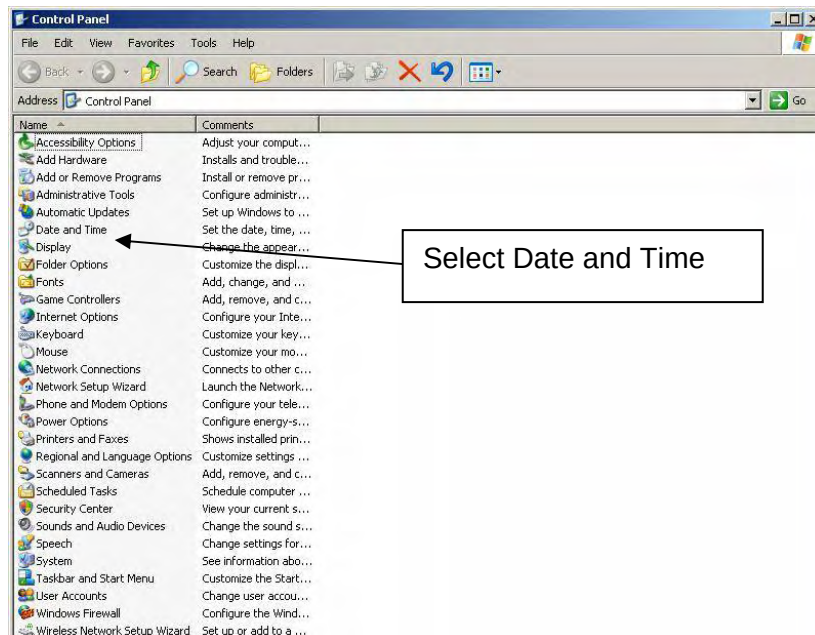

Figure 1-116. Control Panel Window
2. In the "Control Panel" window (Figure 1-116), double click on **Date and Time** icon.